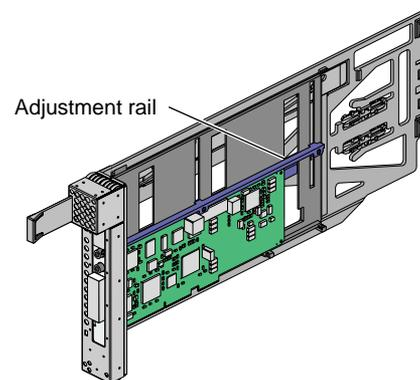

Figure 13 Moving Carrier Guide Bar to Secure Half-height PCI Card
- d. Move the carrier guide bar (adjustment rail) so that it holds the card firmly in place (see Figure 13).